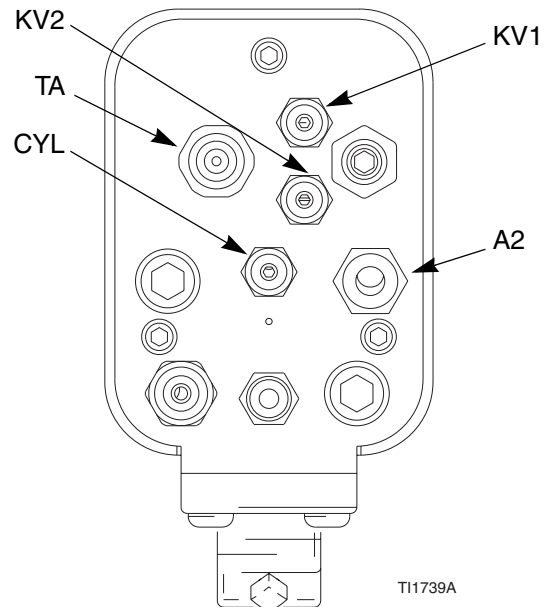

Fig. 12. Manifold Air Connections
1. Trigger the gun, then turn on the turbine air (TA). See FIG. 12..
1. Apply a minimum of 50 psi (3.5 bar, 0.35 MPa) air pressure to the cylinder air fitting (CYL) to activate the on/off sequence of atomization air (A2) and fluid (P1). See FIG. 12..
2. Turn the gun functions off and on by using the air solenoid valves on the cylinder (CYL) and turbine (TA) air supply lines.